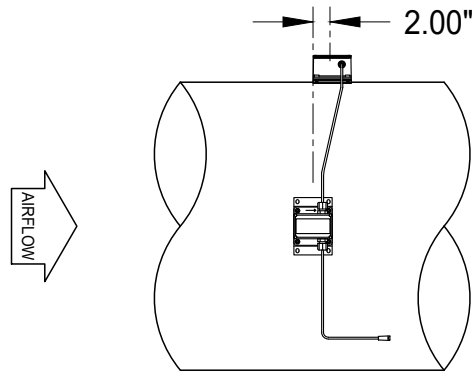

Figure 4
- For circular ducts with more than one probe, the probes must be staggered along the axis of the duct to provide clearance as they cross over each other in the center. See Figure 4.